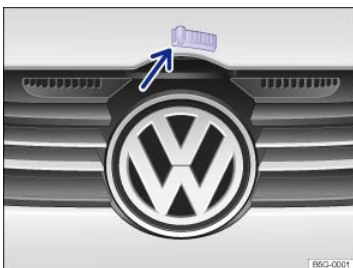

Fig. 208 Above the radiator grille: Outside engine hood release.
- Push the outside hood release lever ⇒ Fig. 208 (arrow) and lift the hood all the way up. A gas-pressure strut will hold the hood up.